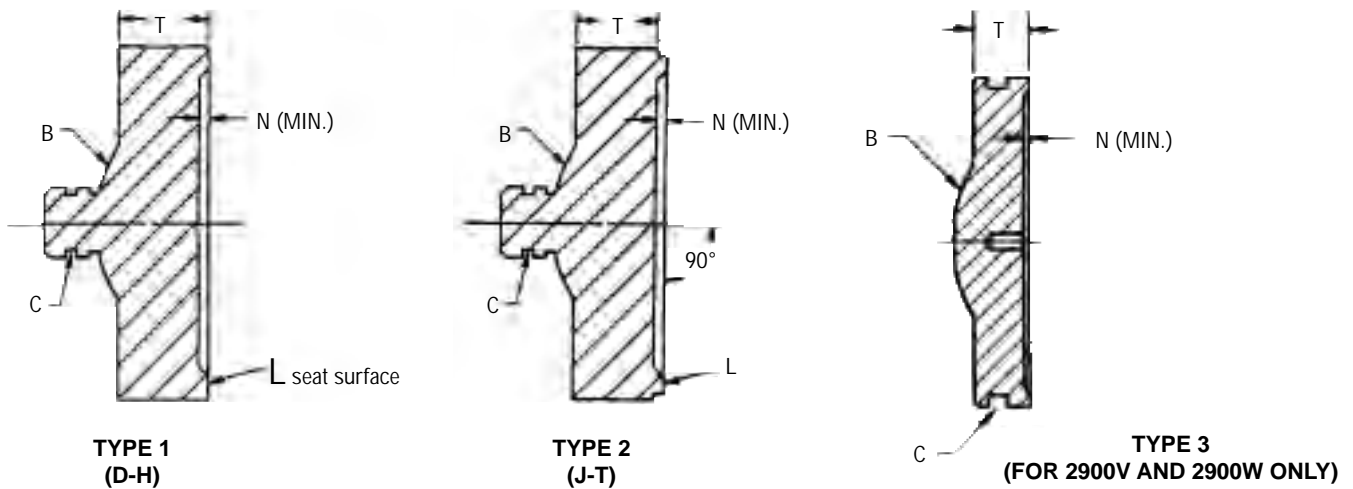

FIGURE 15
2. The "T" dimension (See Figure 15) is reduced by machining or lapping seat surface "L" and measures less than "T" minimum indicated in Table 3.